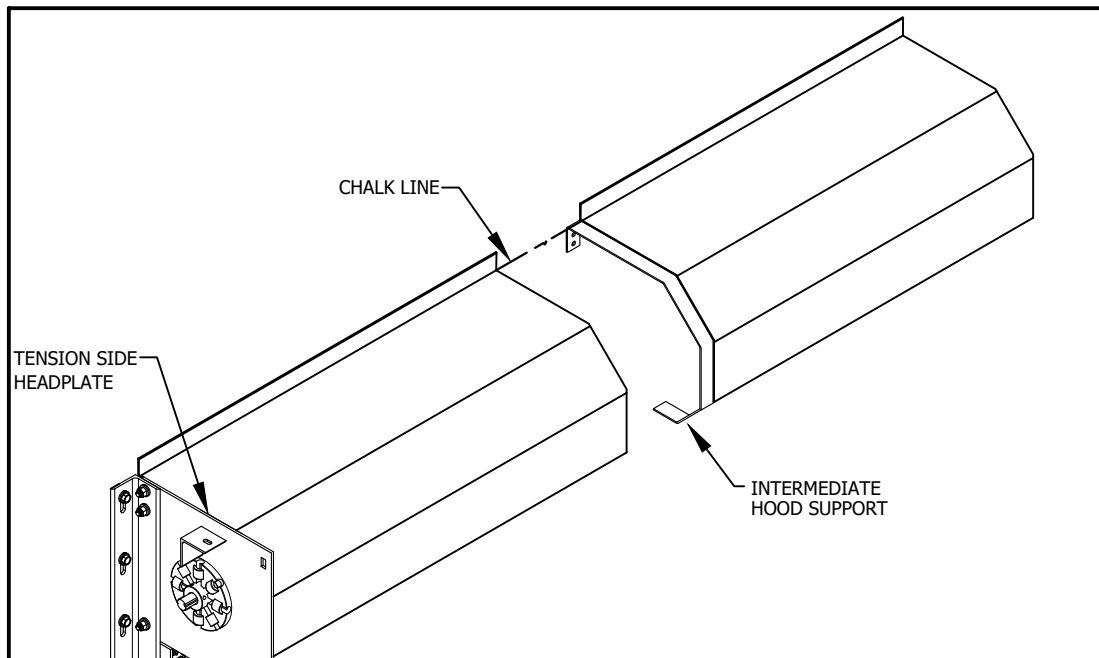

FIGURE 19
- a. If provided, mount intermediate hood support to a structurally stable location on wall as shown in Figure 19 using installer supplied fasteners.